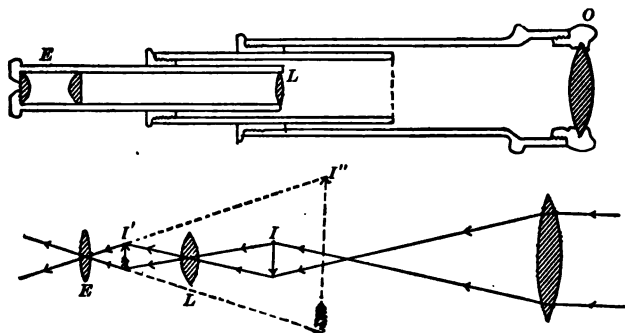

FIG. 438. — Erecting telescope or spyglass.
**460. The erecting telescope or spyglass.** This instrument (Fig. 438) is like the astronomical telescope except that an additional converging lens or lens system  $L$  is introduced between the object glass  $O$  and the eyepiece  $E$ . This lens  $L$  inverts the image  $I$ , forming another real image at  $I'$ ;